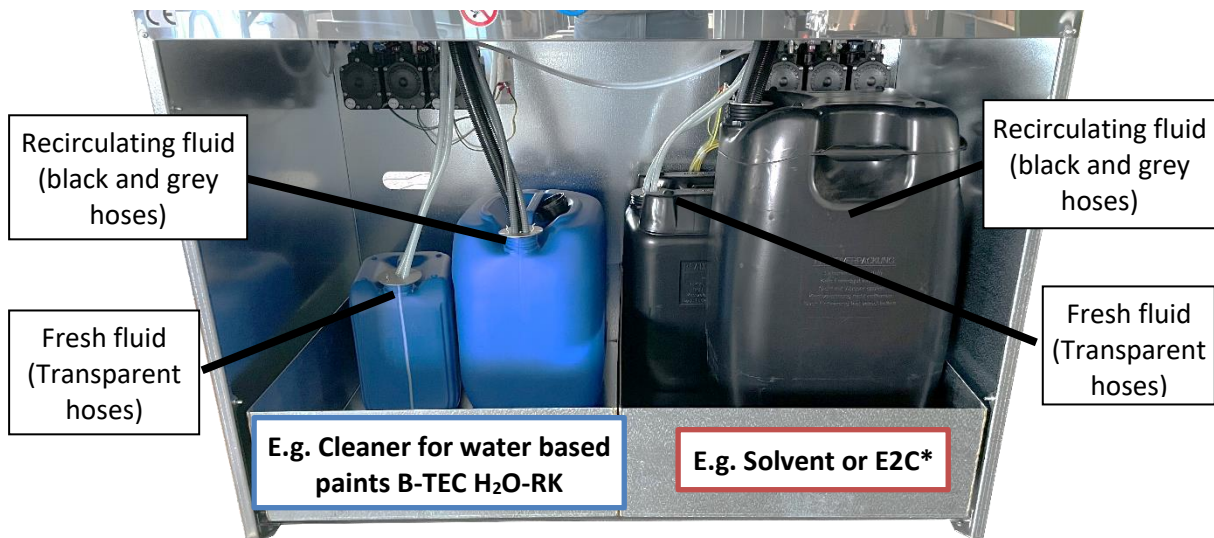

Figure 8-1 – Example water based cleaner on the left side, solvent on the right side
Per side you need 1 × 60 litre container filled with 30 litres (recirculating fluid) and 1 × 30 litre container filled with 30 litres (fresh fluid). See Figure 8-1. Alternatively, you can use 1 × 30 litre container filled with 20 litres (recirculating fluid) and 1 × 10 litre container filled with 10 litres (fresh fluid). When refilling the fresh fluid, ensure that the container for circulating fluid has a remaining capacity of 30 litres to prevent overflowing of fluid. It is recommended to also renew the circulating liquid when refilling the clean rinse liquid. If B-TEC E2C is used, a separate container for fresh fluid is not necessary.
1. Remove the front cover and place the containers as shown in Figure 8-1 on both sides. It's also possible to use water based cleaner or solvent on both sides.